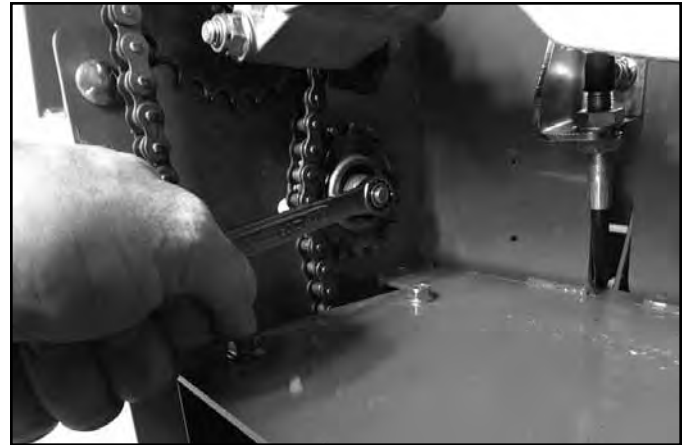

Fig. 143
5. Loosen the drive chain idler sprockets on each side of the unit (Fig. 143).